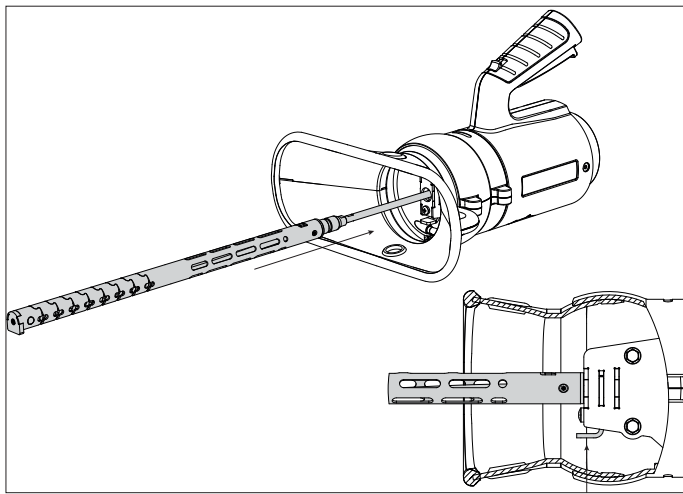

Fig. 4.3 Inserting the beak with pull rod
- Hold the Grabber and insert the beak with pull rod. Press tightly until the beak has clicked firmly in place. Press the button on the mechanism to ease the operation. Refer to fig. 4.3 below.